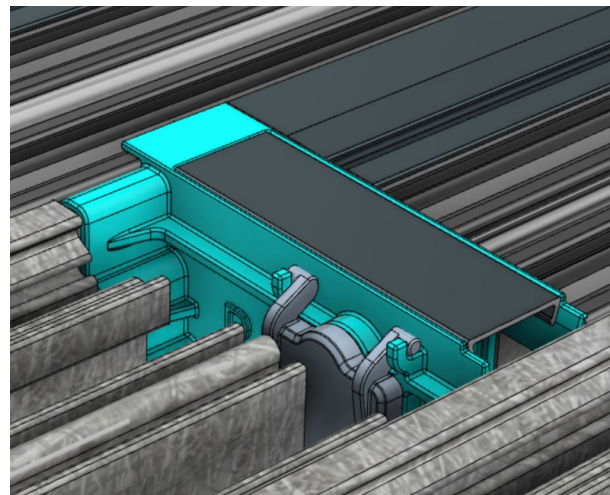

Fig 34
- Ensure that both legs of the drain lids are resting on the hooks of the transverse drain, and that the lids sit aligned with the drain openings as shown in Fig. 34